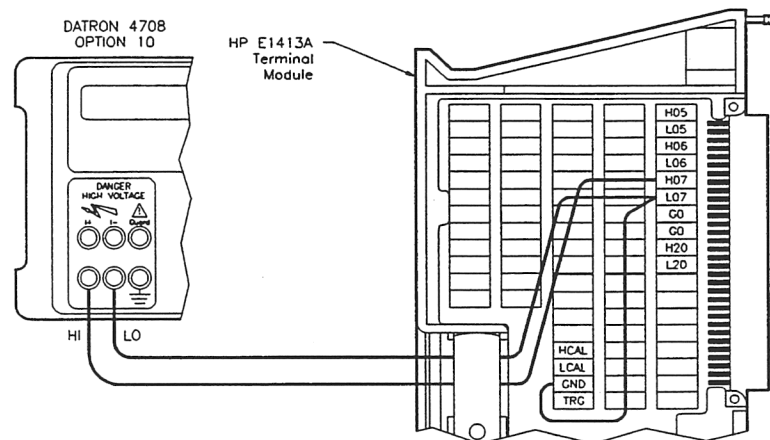

Figure 2-6. DC Standard Connections
- For connections to DC Standard (Datron 4708), see Figure 2-6
- [a] Connect HI and LO leads to DC Standard (see Figure 2-6)